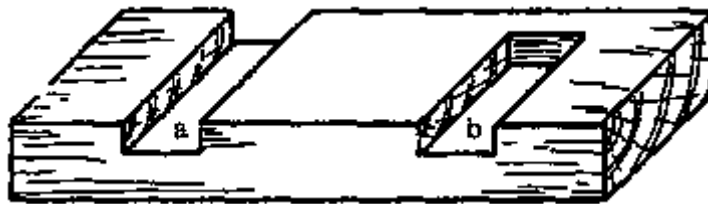

Fig. 4
- TRENCH: This is a recess cut along the grain. A trench can also be either through (Fig. 4, a) or stopped (Fig. 4, b).